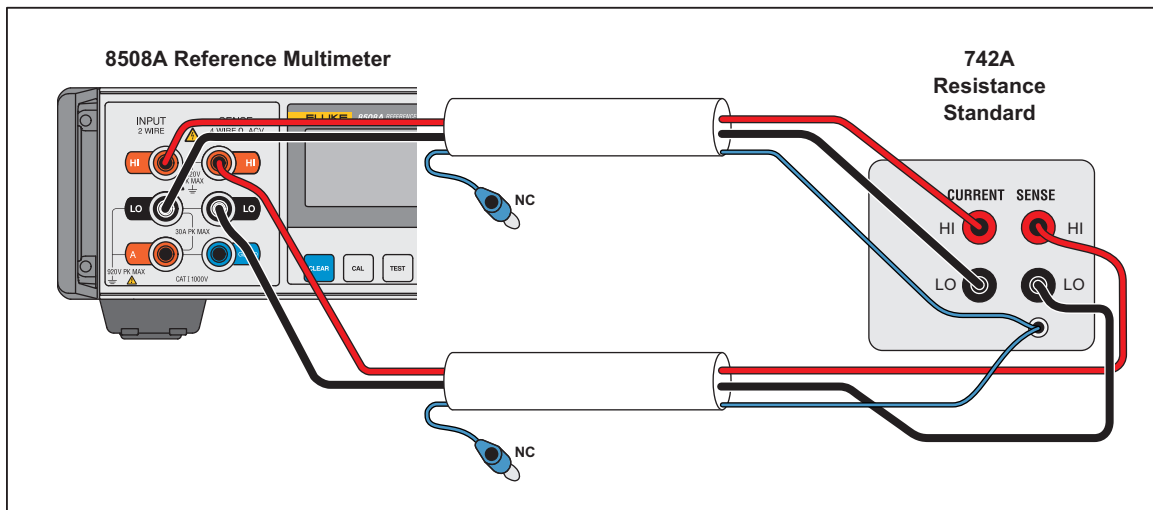

Figure 11. 10 Ω through 19 M Ω Resistance Verification
4. Connect the DMM to the first or next resistance standard (742A) given in Table 6 using the 5730A-7003 cables as shown in Figure 11.